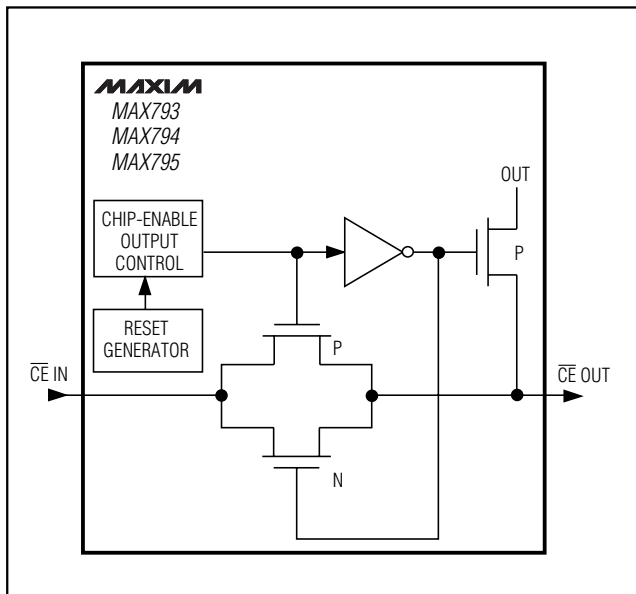

Figure 7. Chip-Enable Transmission Gate
Internal gating of chip-enable (CE) signals prevents erroneous data from corrupting CMOS RAM in the event of an undervoltage condition. The MAX793/MAX794/MAX795 use a series transmission gate from $\overline{\text{CE}}$ IN to $\overline{\text{CE}}$ OUT (Figure 7). During normal operation (reset not asserted), the CE transmission gate is enabled and passes all CE transitions. When reset is asserted, this path becomes disabled, preventing erroneous data from corrupting the CMOS RAM. The short CE propagation delay from CE IN to $\overline{\text{CE}}$ OUT enables these μP supervisors to be used with most μPs . If CE IN is low when reset asserts, CE OUT remains low for typically 10 μs to permit completion of the current write cycle.